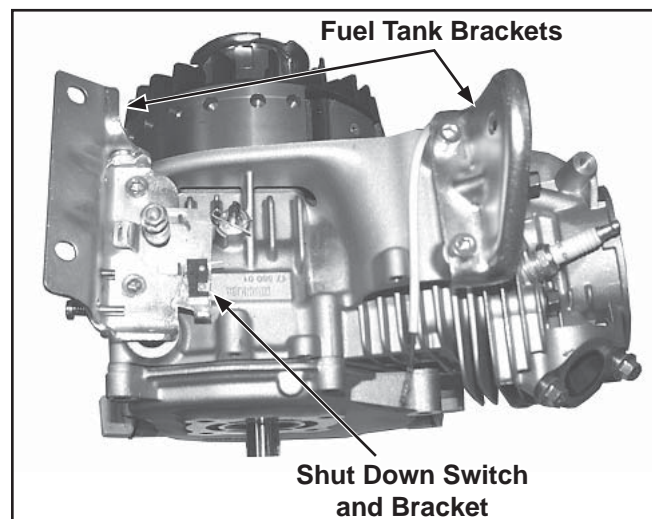

Figure 11-54. Install Fuel Tank Brackets.
1. Position both tank support brackets on the crankcase and loosely install with four hex head screws. See Figure 11-54.
2. Position the shut down switch with bracket on the tank bracket shown (see Figure 11-54) and install the threaded stud to secure.